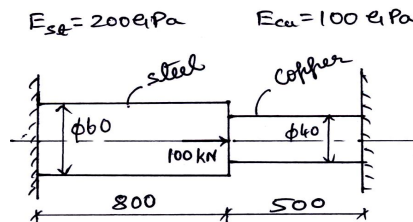

Fig.Q3(b)
- b. Using penalty method of handling boundary condition, determine the nodal displacement, stress in each element and support reaction in the bar shown due to applied load in Fig.Q3(b). $P = 100 \text{ kN}$.